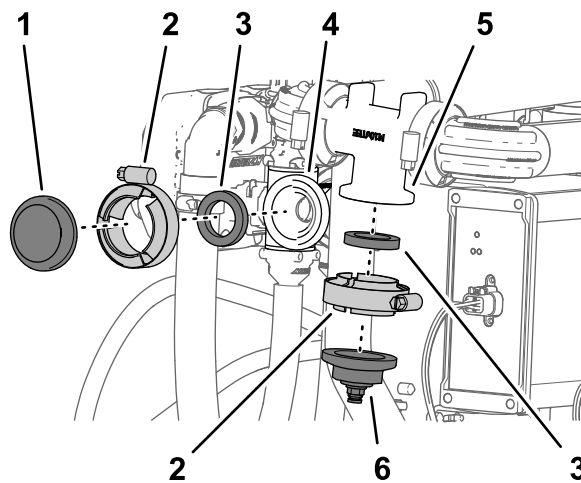

Figure 135
1. Remove the flange clamp the gasket that secure the plain cap to the flange of nozzle valve 10 (Figure 135).
2. Remove the flange clamp and gasket that secure the cap and tube fitting to the flange of the flow meter manifold (Figure 135).